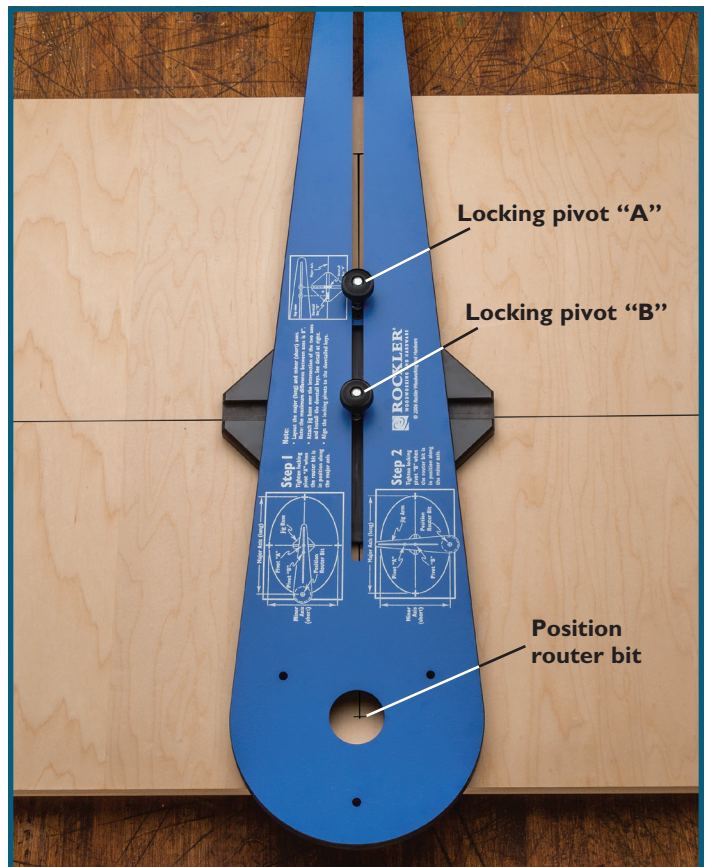

Fig. 5 - Router removed for clarity
6. Rotate the Jig Arm (1) so it's aligned with the minor axis, and adjust it in or out until the bit is positioned as desired to make the cut. Tighten the Locking Pivot on Dovetail Key B. **Fig. 5.**
7. With the router off, rotate the Jig Arm (1) through the full range of cut. You want to ensure that the dovetail keys will move smoothly, as well as verify the ellipse pattern and proper placement of any spacers/supports. Then make the cut.